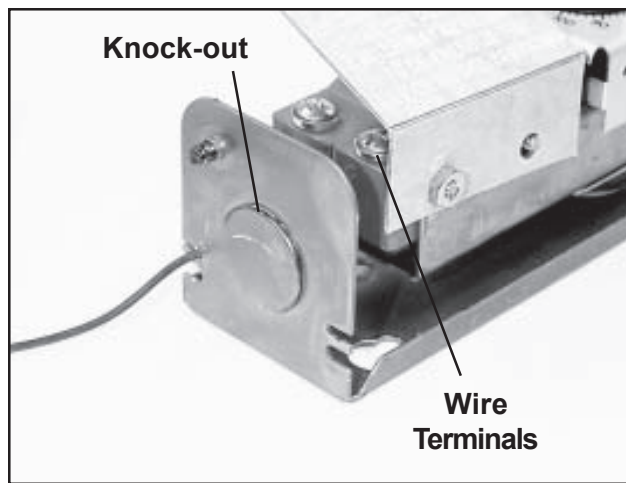

Figure 132. Thermostat Knock-out
7. Remove the knock-out from the end of the thermostat chassis farthest from the dial (Figure 132).